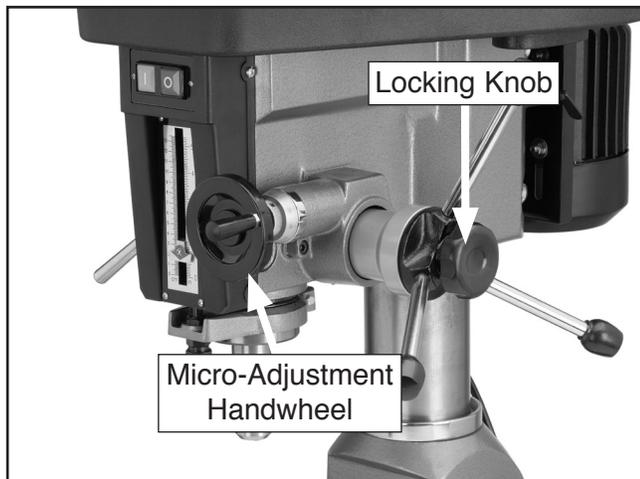

Figure 25. Micro-adjustment handwheel.
1. Tighten the locking knob located on the center of the hub for the down-feed levers (**Figure 25**).